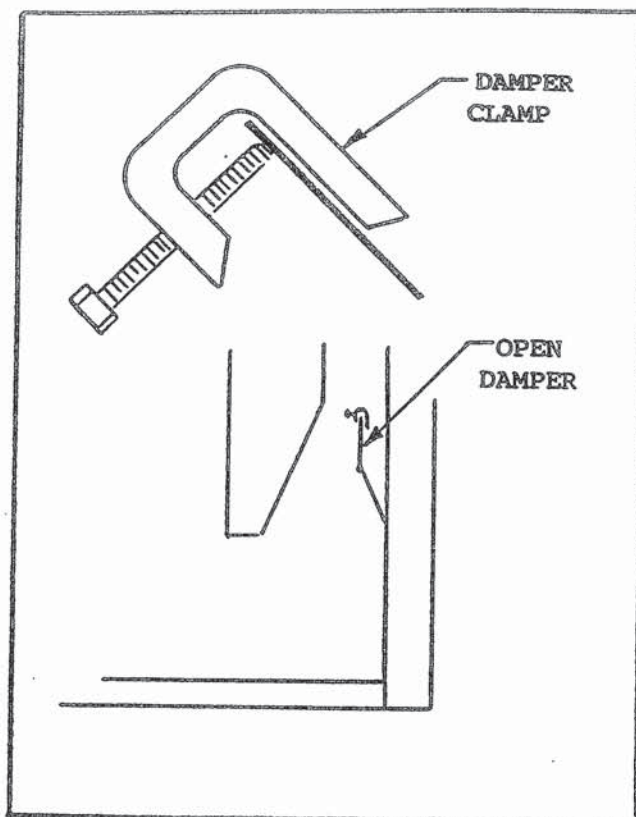

FIGURE 2
- E. A damper stop clamp with set screw is provided to prevent full closure of the fireplace damper blade. Attach the clamp to the edge of the damper blade with pliers or wrenches. If the damper stop supplied does not fit the application, use a permanent means that will keep the damper open to a **MINIMUM** of 48 square inches. See Figure 2.